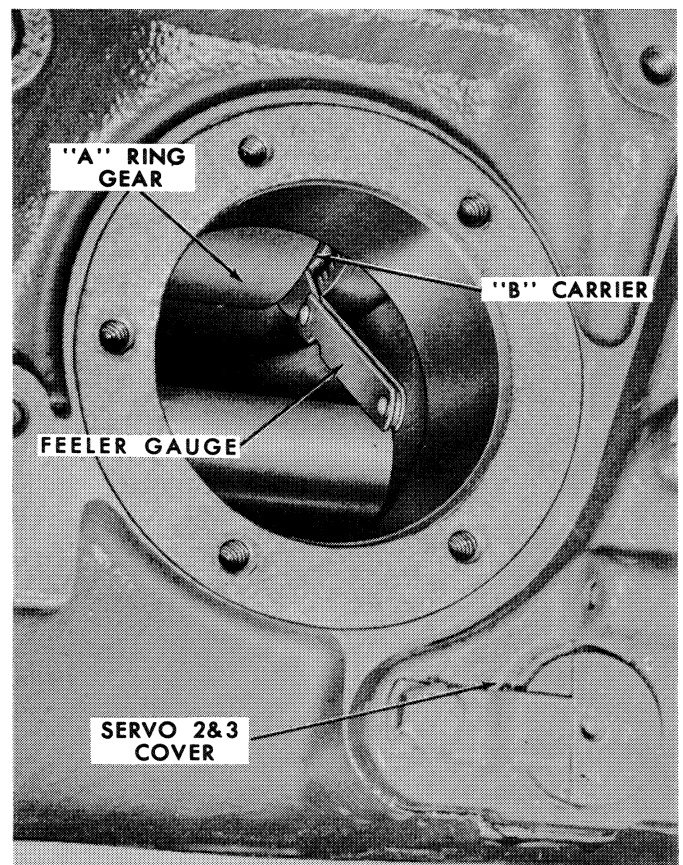

Figure 40
2. Remove the transmission right-hand inspection cover and pry the planetary "A" ring gear toward the rear of the transmission with a screwdriver and check the clearance between the "A" ring gear and the "B" carrier. See Figure 40.